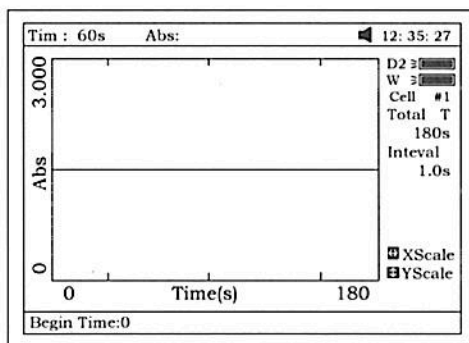
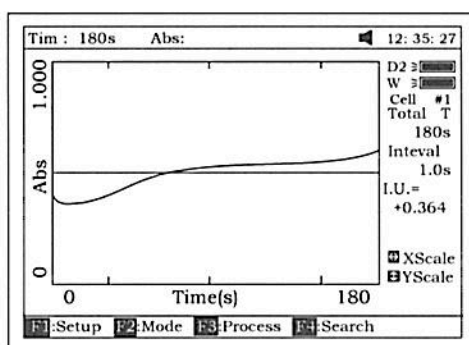

Fig 57
Fig 58
- Press **[F3]** to process the data, and enter "Begin Time", "End Time" and "Factor" (Fig 57) and the value in I.U. will be calculated and displayed (Fig 58). The average straight line between the Begin Time and End Time will be calculated. The gradient of this line gives the rate of change of  $\Delta A/\text{min}$ .